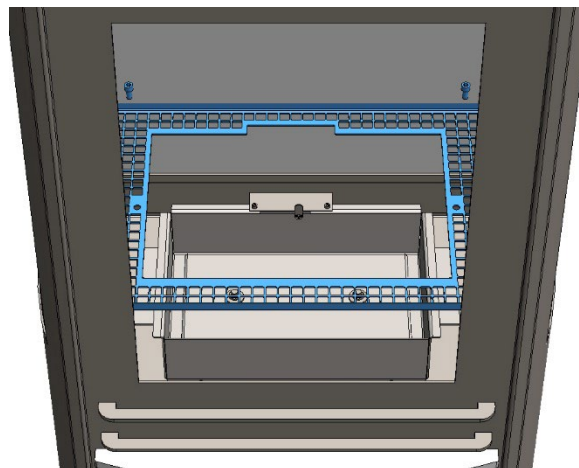

Fig.29 Fuel Mesh
- Unscrew and remove the fuel mesh (Fig.29).